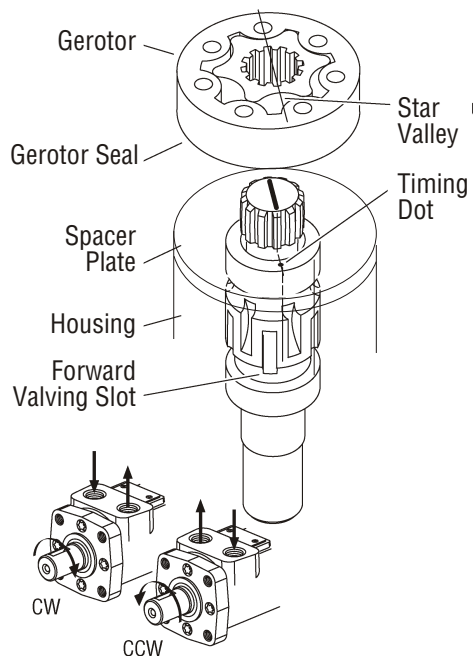

Figure 5-54, Reverse Rotation
26. For reverse rotation align any star valley with the marked tooth on the drive. (Figure 5-54)